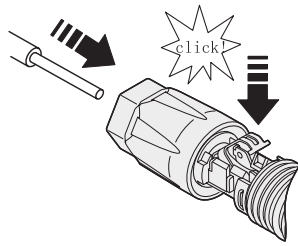

Fig. 32. Inserting the DC cable into the battery connector.
4. Insert the stripped DC cable far enough into the battery connector and change the retaining bracket to make sure it is locked tightly to the stripped cable, as shown in Fig. 32.